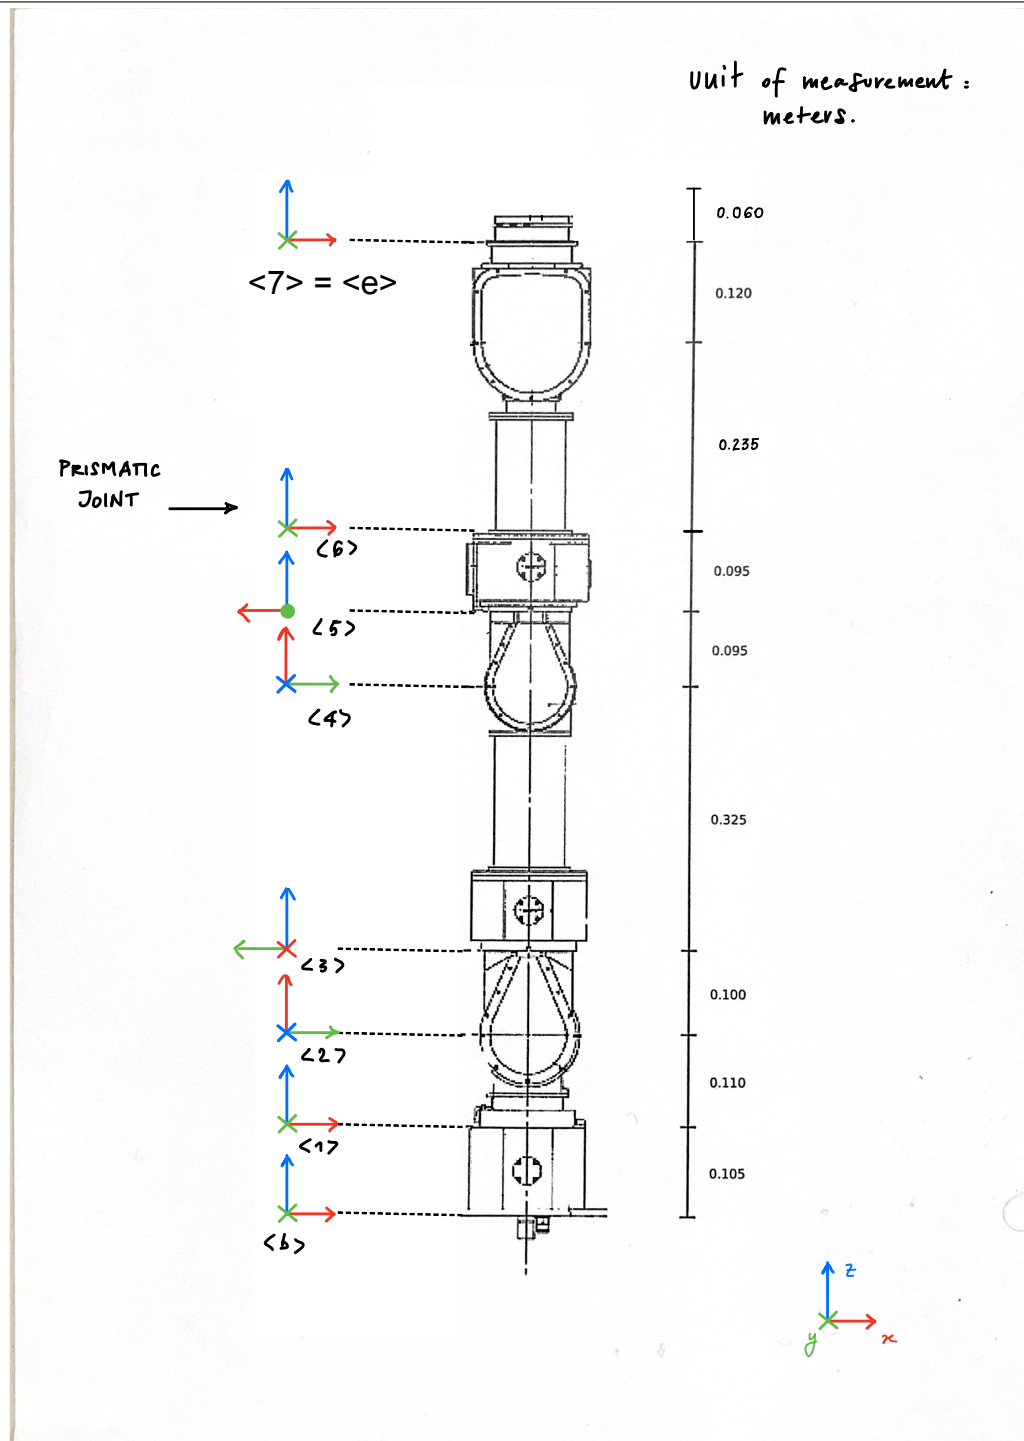

Figure 1: CAD model of the robot
1. **Frame Orientation and Offsets:** The provided CAD model of the 7-DOF robot, shown in Figure 1, specifies the orientations and distances (offsets) between consecutive frames. This information is used to calculate the relative rotation matrices and position vectors between the frames.